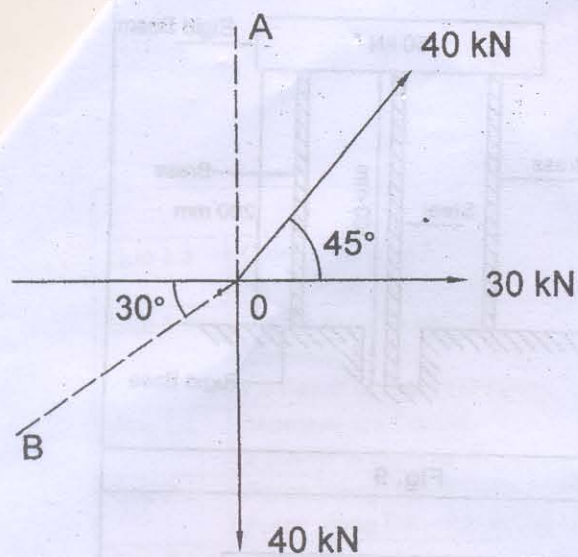

Fig. 1
- Que. 2.a Three coplanar concurrent forces act on a body at point O. Determine two additional forces, along OA and OB such that resultant of the five forces is zero. (Fig.1) 04